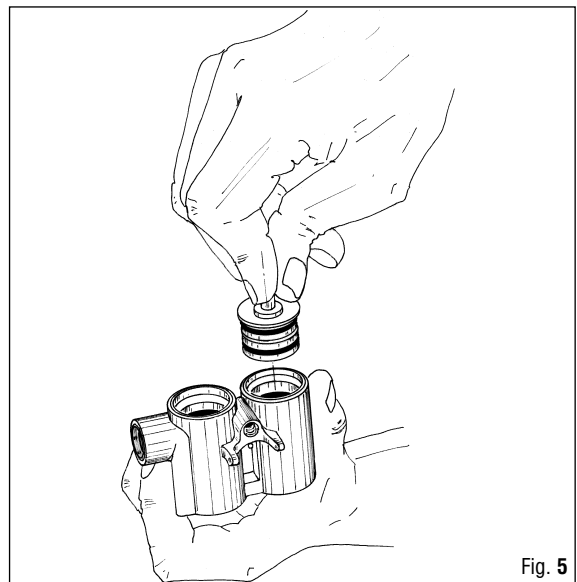

Fig. 5
1. Position the O-ring (24) on the head of the piston (25).
2. Assemble the outer O-ring (24) on the piston cap (27) and the two O-rings (26) inside the piston cap (27).
3. Correctly fit the piston cap (27) on the piston (25) (See Fig. 5).
IT IS RECOMMENDED TO SLIDE THE PISTON CAP (27) ALONG UNTIL IT COMES INTO CONTACT WITH THE PISTON HEAD (25) (See Fig. 5).
4. Insert the piston (25) with the cap (27) all the way into the piston body (23).